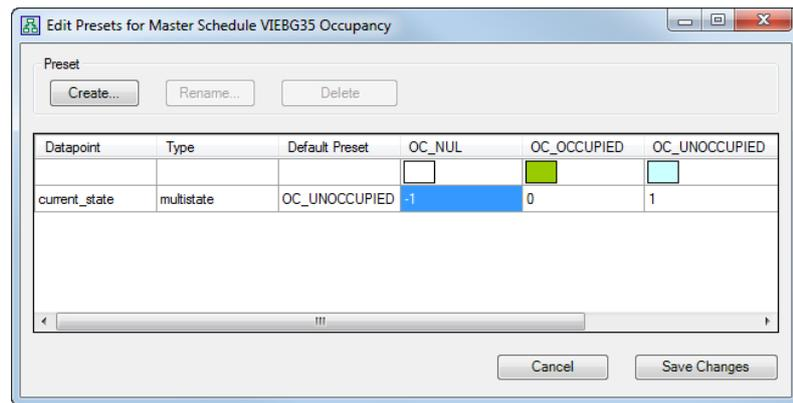

Figure 126: Preset Definition
3. Click on the **Create** button to add a new presets (see Figure 126).